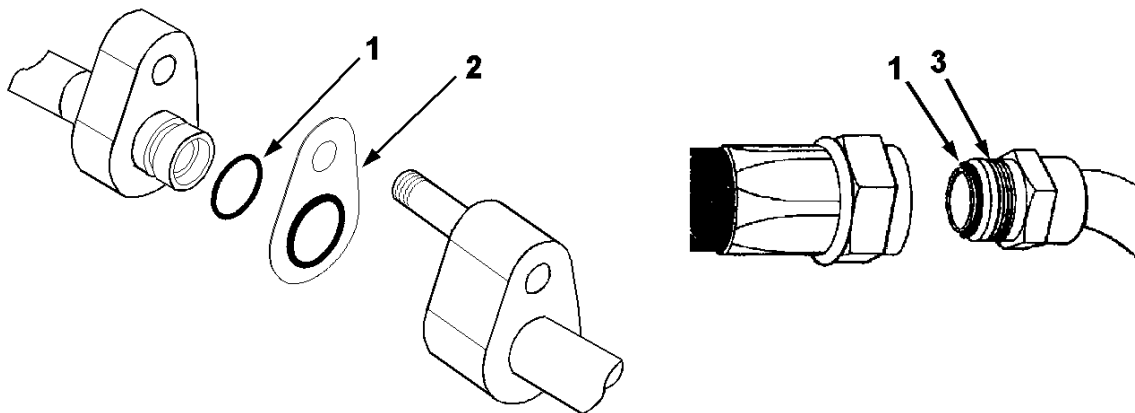

Figure 35 Lubricating O-Rings and Fittings
3. It is important that all refrigerant hose O-rings and tubing fittings be lubricated with **MINERAL-BASED** refrigerant oil (Figure 35).